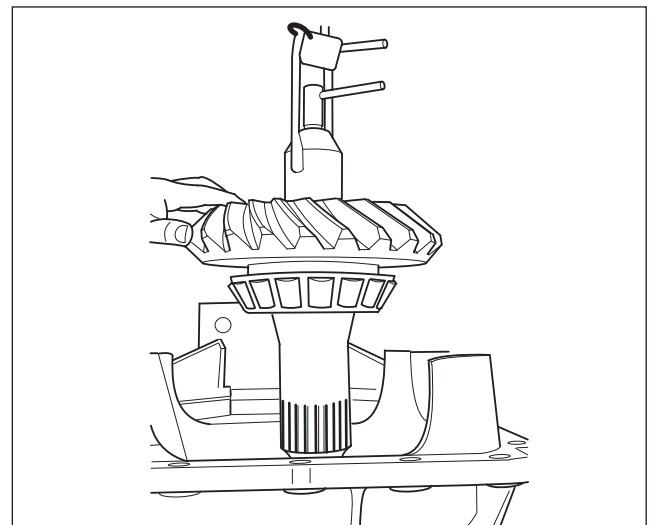

Fig. 2.24
24. Turn carrier over and lift out pinion with use of service tool CT17. (Fig. 2.24)